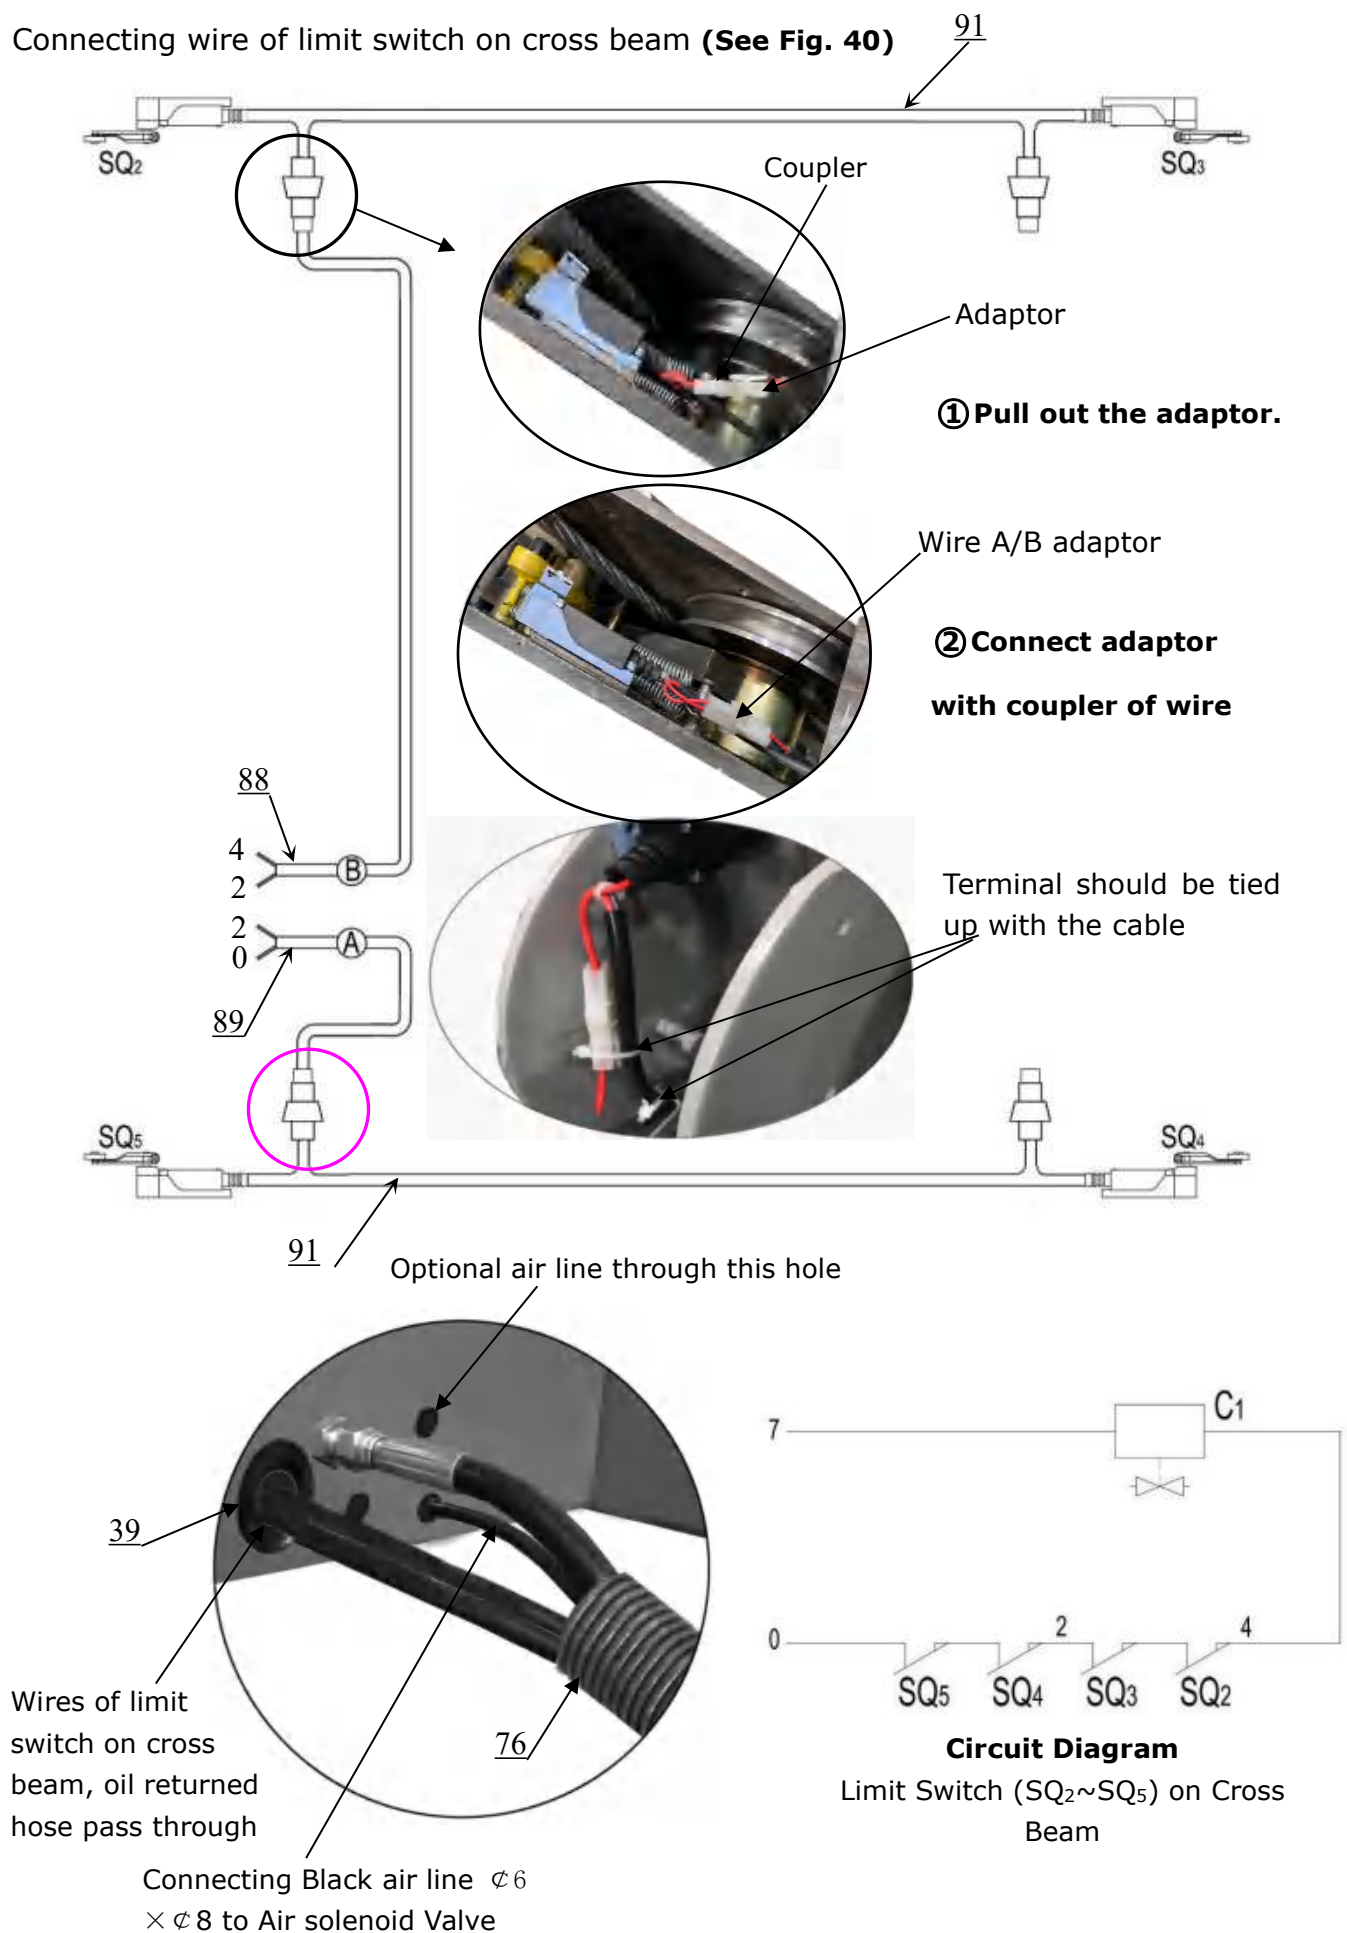

Fig.40
3. Connecting wire of limit switch on cross beam (See Fig. 40)